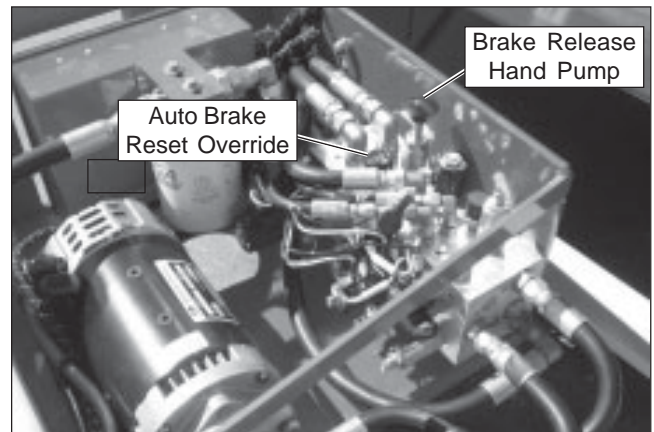

Figure 11.2 – Hydraulic Tray
3. Unlatch and swing out the hydraulic tray on the right side of the chassis. Push and release the brake release hand pump several times to release the brakes. The hand pump is located on the main control valve (refer to Figure 11.2).